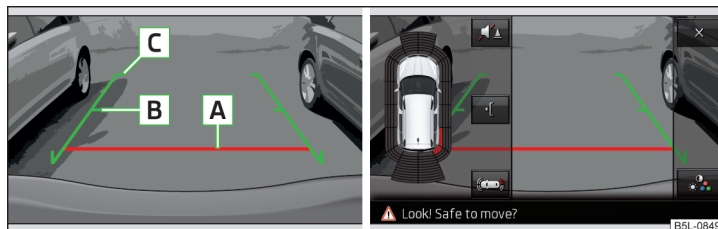

Fig. 148 Infotainment display: Orientation lines / function keys
**Distance of the orientation lines behind the vehicle** » Fig. 148
**Function keys** » Fig. 148